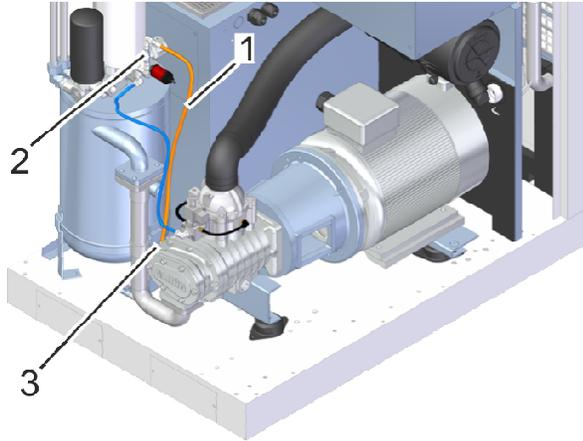

Fig. 35: Return line
- 8.** Tighten the clamp on the intake filter (Fig. 35/1).
4. Unfasten the return line (Fig. 35/1) on the air/oil separator (Fig. 35/2) and the compressor air end (Fig. 35/3).
5. Clean the return line (Fig. 35/1) and nozzle. If necessary, replace them with original spare parts (🔗 *Parts List*).
6. Place the nozzle and return line (Fig. 35/1) back in position and tighten the screw connections.